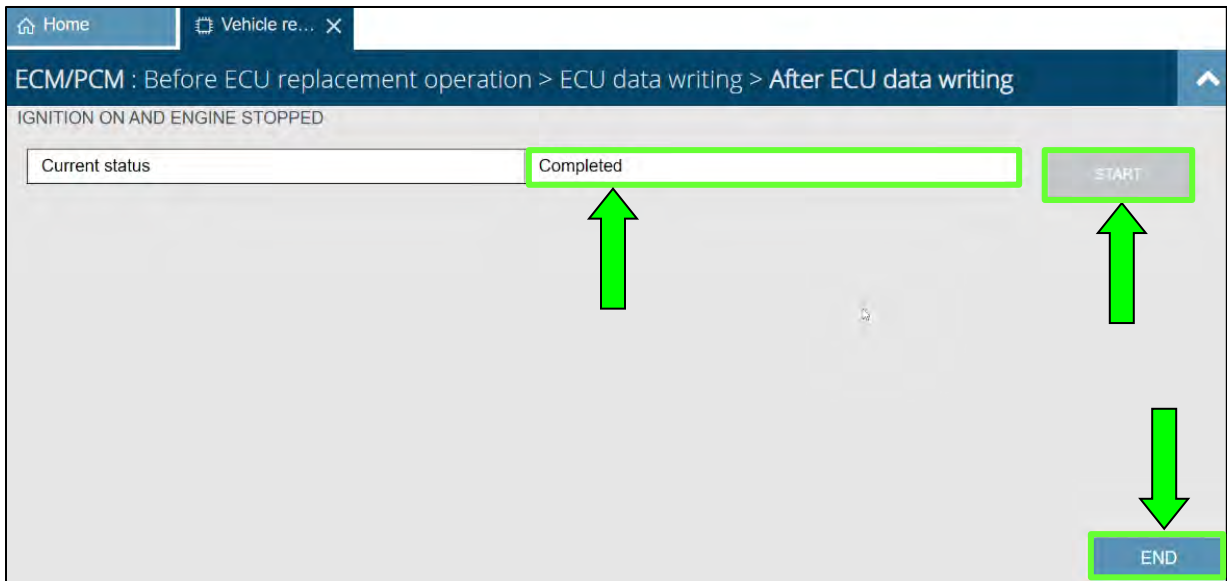

Figure 23
25. When the screen shown in Figure 23 is displayed, select **START**, wait for the status to change to **Completed**, and then select **END**.